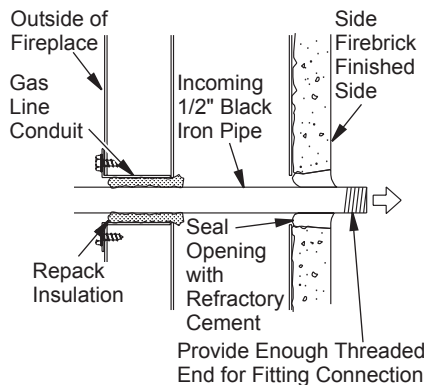

Figure 18 - Gas Line Installation
2. Run a 1/2" black iron gas line into fireplace through rear at gas line conduit sleeve (if using a raised platform, add height). Provide sufficient gas line into fireplace chamber for fitting connection (see Figure 18).